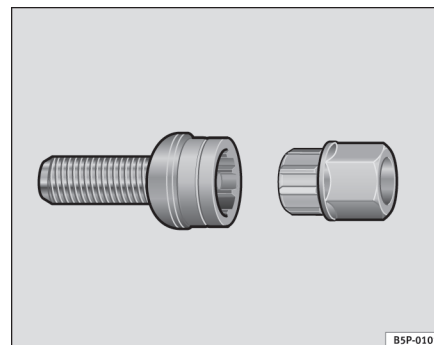

Fig. 174 Anti-theft wheel bolt
- Insert the adaptor onto the wheel bolt and push it on as far as it will go ⇒ page 247, fig. 174.